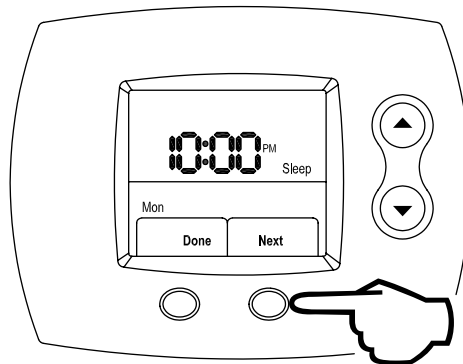

Figure 69
Step 22: Press the **RIGHT** (Next) button to set the Sleep period start time, which is shown in Figure 69.